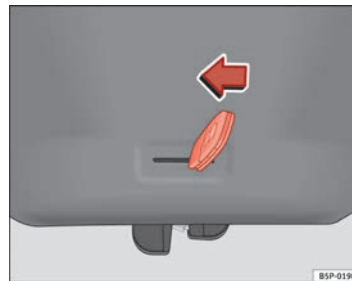

Fig. 68 Rear lid: emergency open
- Insert the key in the groove and unlock the locking system, turning the key from right to left, as shown by the arrow ⇒ Fig. 68. ■